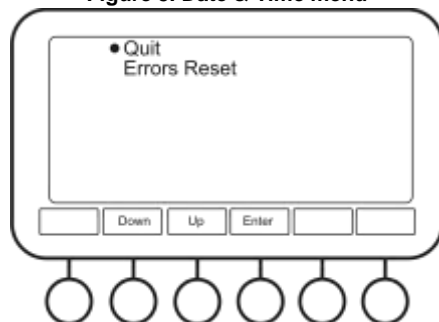

Figure 7. Current Errors menu
- 5.9.3.1 **Current Errors** (fig. 7). This option allows user to view and reset the list of active errors. See 6.3, for a list of possible errors.